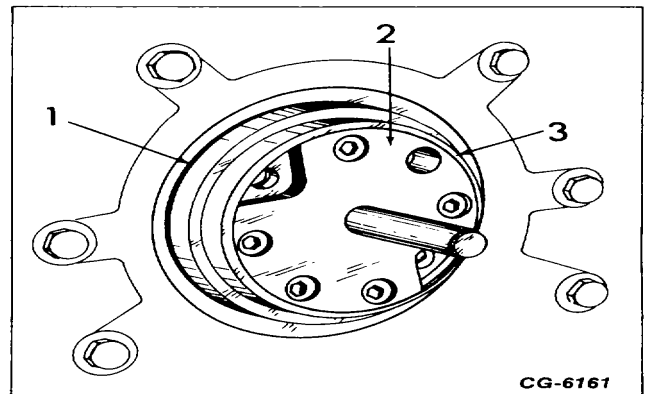

Figure 34. - Oil Seal and Wear Sleeve Installation
- h. Position the wear sleeve (3, Fig. 34) with oil seal (1) on the centering plate (2) and crankshaft as shown. Tighten the four allen head screws.